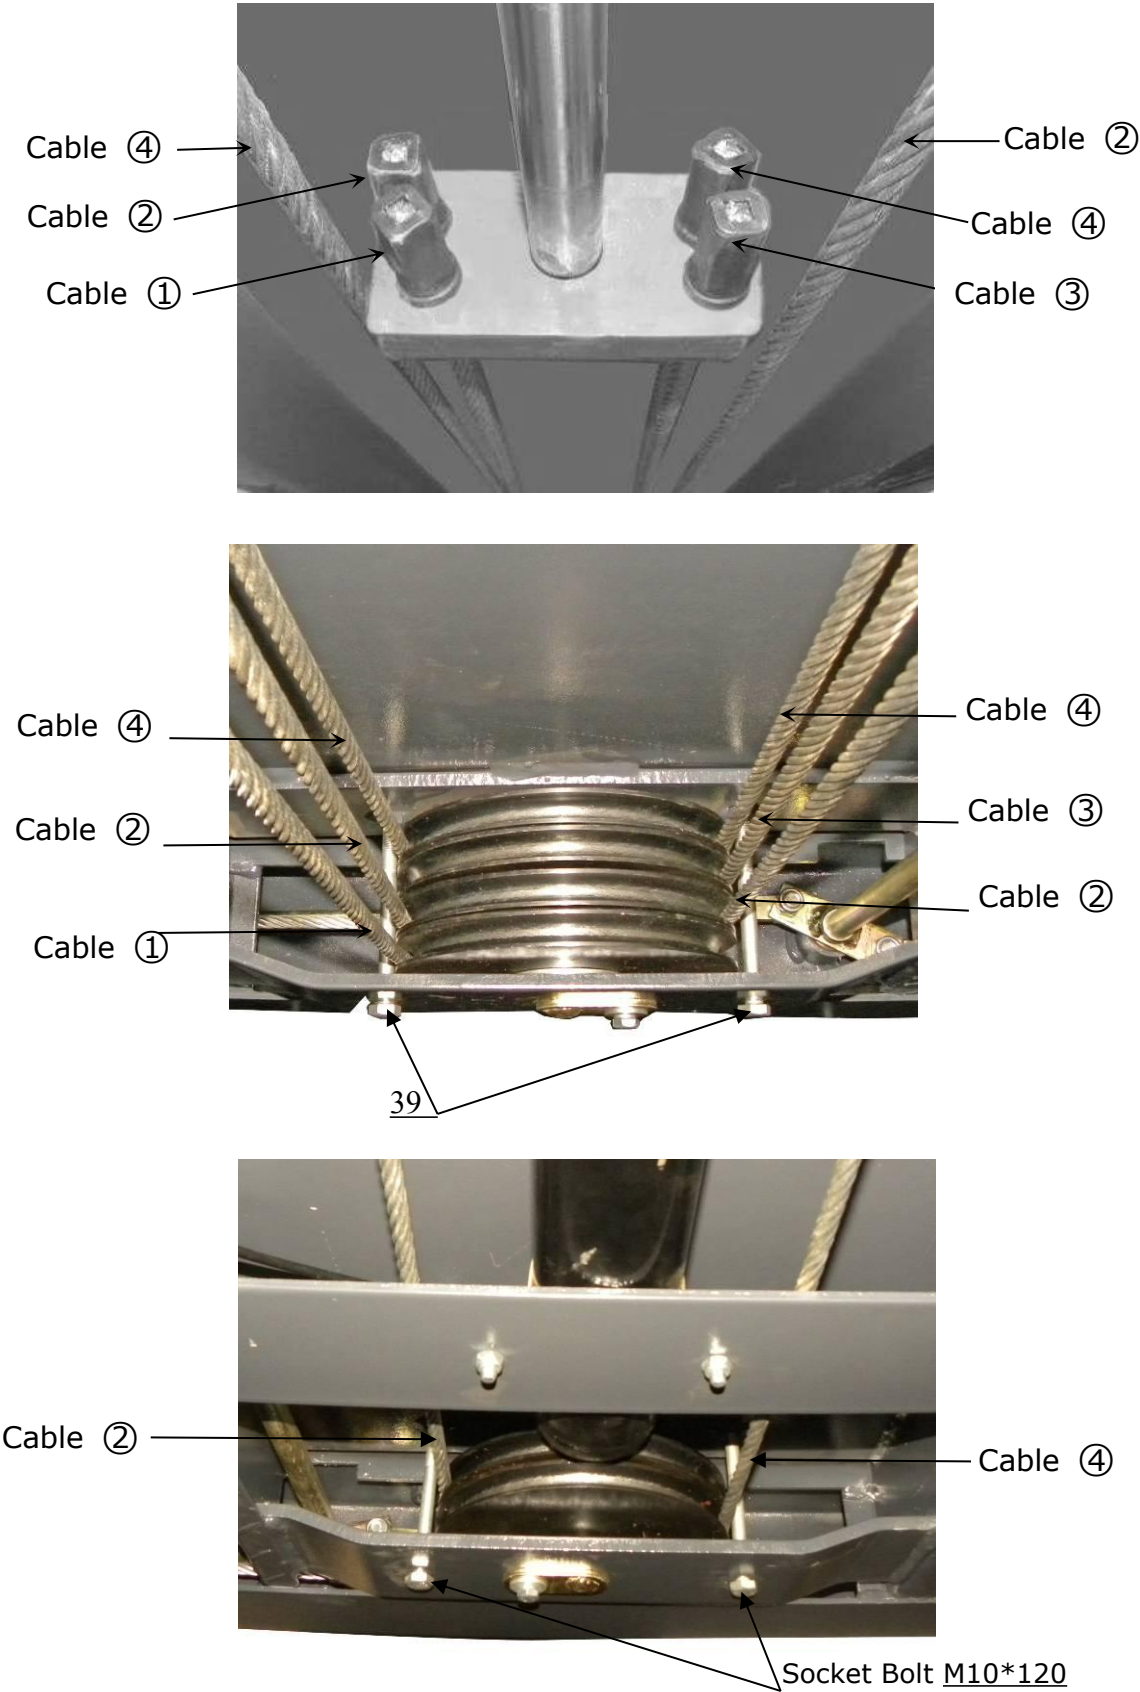

Fig. 22
3. Illustration for platform cables (See Fig. 22).